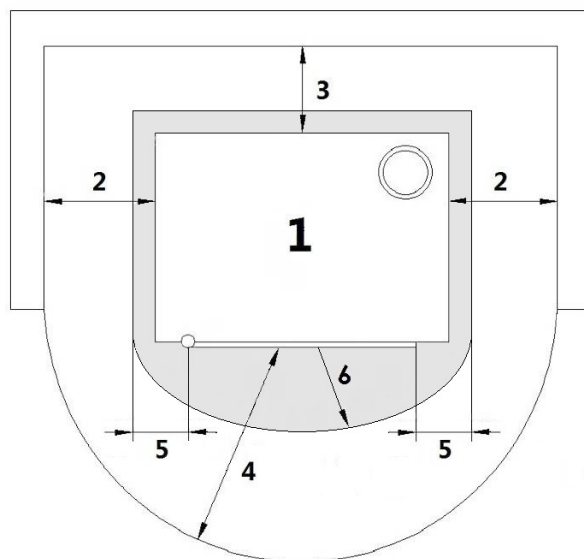

Fig. 10 - General installation
- In case of apart installed stove, it must be detached from possible walls and/or pieces of furniture, with a minimum air flow at the sides and at the back in order to allow an appliance cooling and a good distribution of heat in the environment (see **Fig. 10 page 13**).
- For fire regulations distances from flammable or sensible to heat materials must be respected (sofas, pieces of furniture, wood coatings etc...) as described in **Fig. 10 page 13**.
- If the floor is made up of flammable material, an unburnt material cover must be realized (steel plate, refractory, marble...). For cover dimensions see **Fig. 10 page 13**.